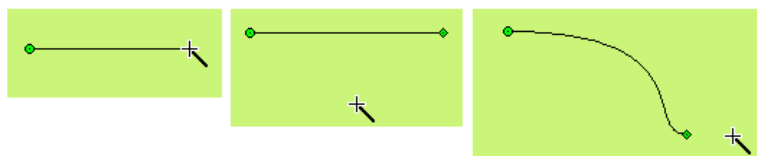

Figure 4-26: Drawing a curve/arc
- At this moment, the mouse shape is still a cross. Move the mouse to another position where you want to set the end of the curve/arc, press down the left key of the mouse and drag the mouse to move in the screen. Then, release the mouse and right click it to complete the drawing process. See Figure 4-26.
- As shown in Figure 4-26, in the curve drawn the starting point is a green dot and the ending point is a diamond dot. This indicates that a curve/arc has been preliminarily drawn. Move the mouse to the starting point or the ending point, a dotted line will appear. The ending point of the dotted line is a square dot. Move the mouse to this dot, and then the mouse will become , press down the left key of the mouse, move it to an appropriate position, and release it to get desired radian. In addition, you can also move the starting point or the ending point to an appropriate position. See Figure 4-27.